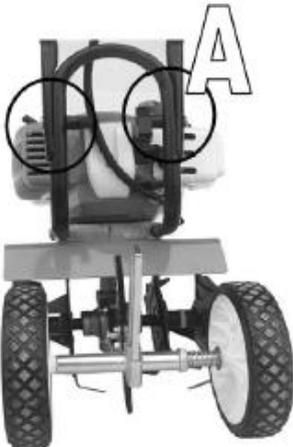

Fig. 4
Secure the middle part of the mounting frame of the working handles on the bottom. To do this, use two wing nuts, two mounting bolts and two spring washers from the cultivator mounting kit (A) Fig. 4. Do not allow excessive tightening of the wing nuts.